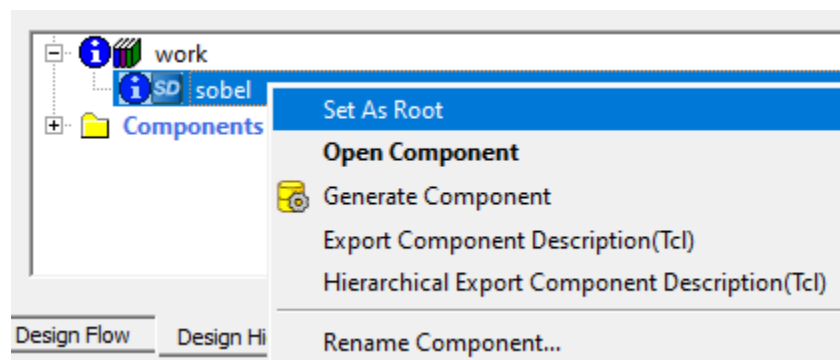

Figure 24: Select the SmartDesign module as root in Libero® SoC.
In the *Design Hierarchy* panel, right click the SmartDesign (SD) icon and click *Set As Root* as shown in Figure 24 below.